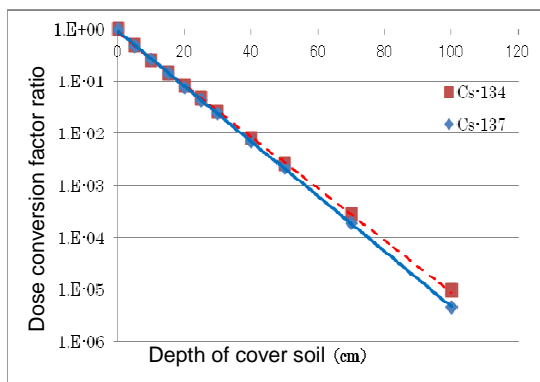

Fig. 1 Depth of cover soil and radiation shielding effect
- (1) Waste storage shafts should be drilled with care to avoid striking an aquifer.
- (2) Make an effort to prevent water from seeping in by lining the bottom and sides of the shaft with impermeable sheets or similar material in advance.
- (3) Waste should be packed in water resistant material and placed in the shaft.
- (4) Cover the shaft within the day with soil which is at low risk of containing radioactive materials (such as soil from more than several centimeters below the surface of the ground). As a rule of thumb, radiation is reduced to approximately 25% by a soil covering of 10 cm, to approximately 15% by 15 cm and to about 8% by 20 cm. (Refer to Fig. 1.)1
- (5) Cover the shaft with impermeable sheets, tent, roof or similar structure to prevent rainwater from seeping into the shaft. Construct drainage ditches to drain off rainwater as needed. Be careful of gas emission if the waste contains large amounts of organic material.
- (6) Alert people to the fact that the cover soil is not to be dug up.
- (1) If piling on earth, make an effort to prevent water from seeping through by lining the ground where the waste is to be piled with impermeable sheets or similar material, in advance.
- (2) Waste should be packed in water resistant material and placed atop the impermeable sheets or similar equipment.
- (3) Piles should be covered within the day with soil which is at low risk of containing radioactive materials. Enclosures should be built at this time, or similar measures taken, to prevent the piles from collapsing. As a rule of thumb, radiation is reduced to approximately 25% by a soil covering of 10 cm, to approximately 15% by 15 cm and to about 8% by 20 cm (Refer to Fig. 1.).
- (4) Cover the piles with impermeable sheets, tent, roof or similar structure to prevent rainwater from seeping into the shaft. Construct drainage ditches to drain off rainwater as needed. Be careful of gas emission if the waste contains large amounts of organic material.
- (5) Take measures to restrict entry through measures such as roping off the piles.
- (6) Guard the waste against dispersal.
- (7) It would be desirable to periodically measure the dose rate.2